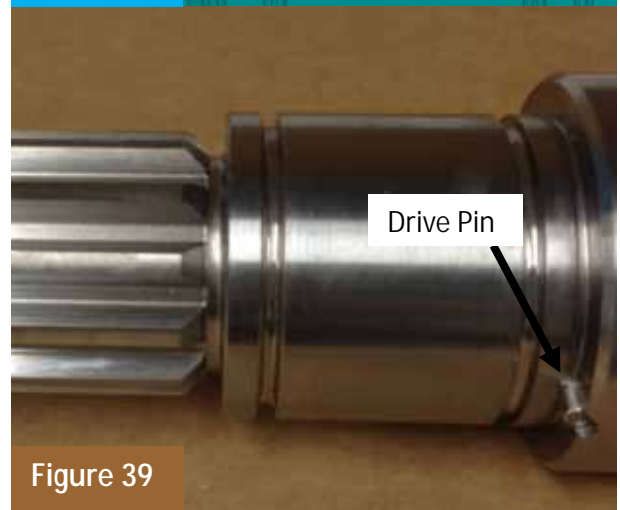

Figure 39
2. Install rotary seal. Take care to align notch in back of rotary seal with shaft drive pin, Figure 39.